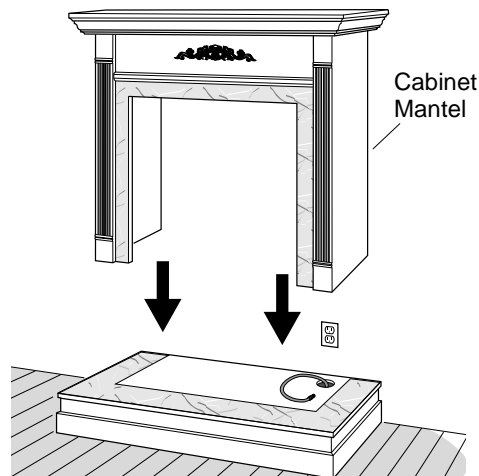

Figure 22 - Installing Cabinet Mantel
6. Center cabinet mantel on hearth base (see Figure 22). Make sure mantel is flush against wall.